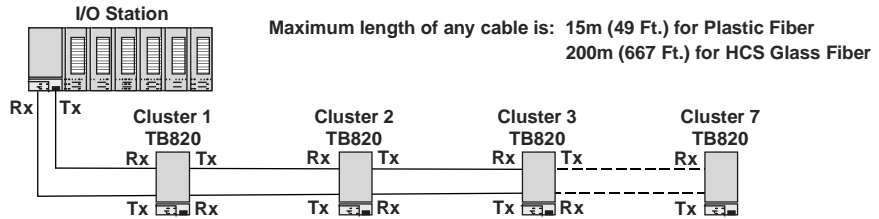

Figure 2-6. Optical Modulebus and I/O clusters, duplex communication
- duplex communication configuration. See Figure 2-6